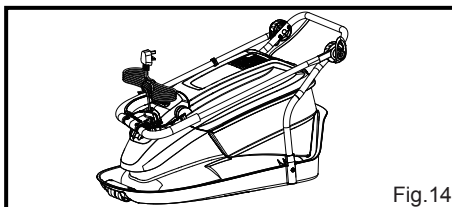

Fig.14
Storing the Mower (See Fig. 14)
- Fold the upper handle assembly over the device housing. Making sure that the cables do not become trapped (Fig. 14).